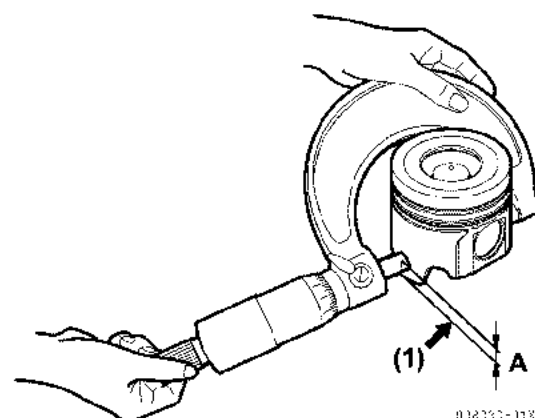

Figure 5-86
- Measure the outside diameter in the position of 22 mm (0.86 in.) from the piston bottom in the direction vertical to the piston pin (Figure 5-86).